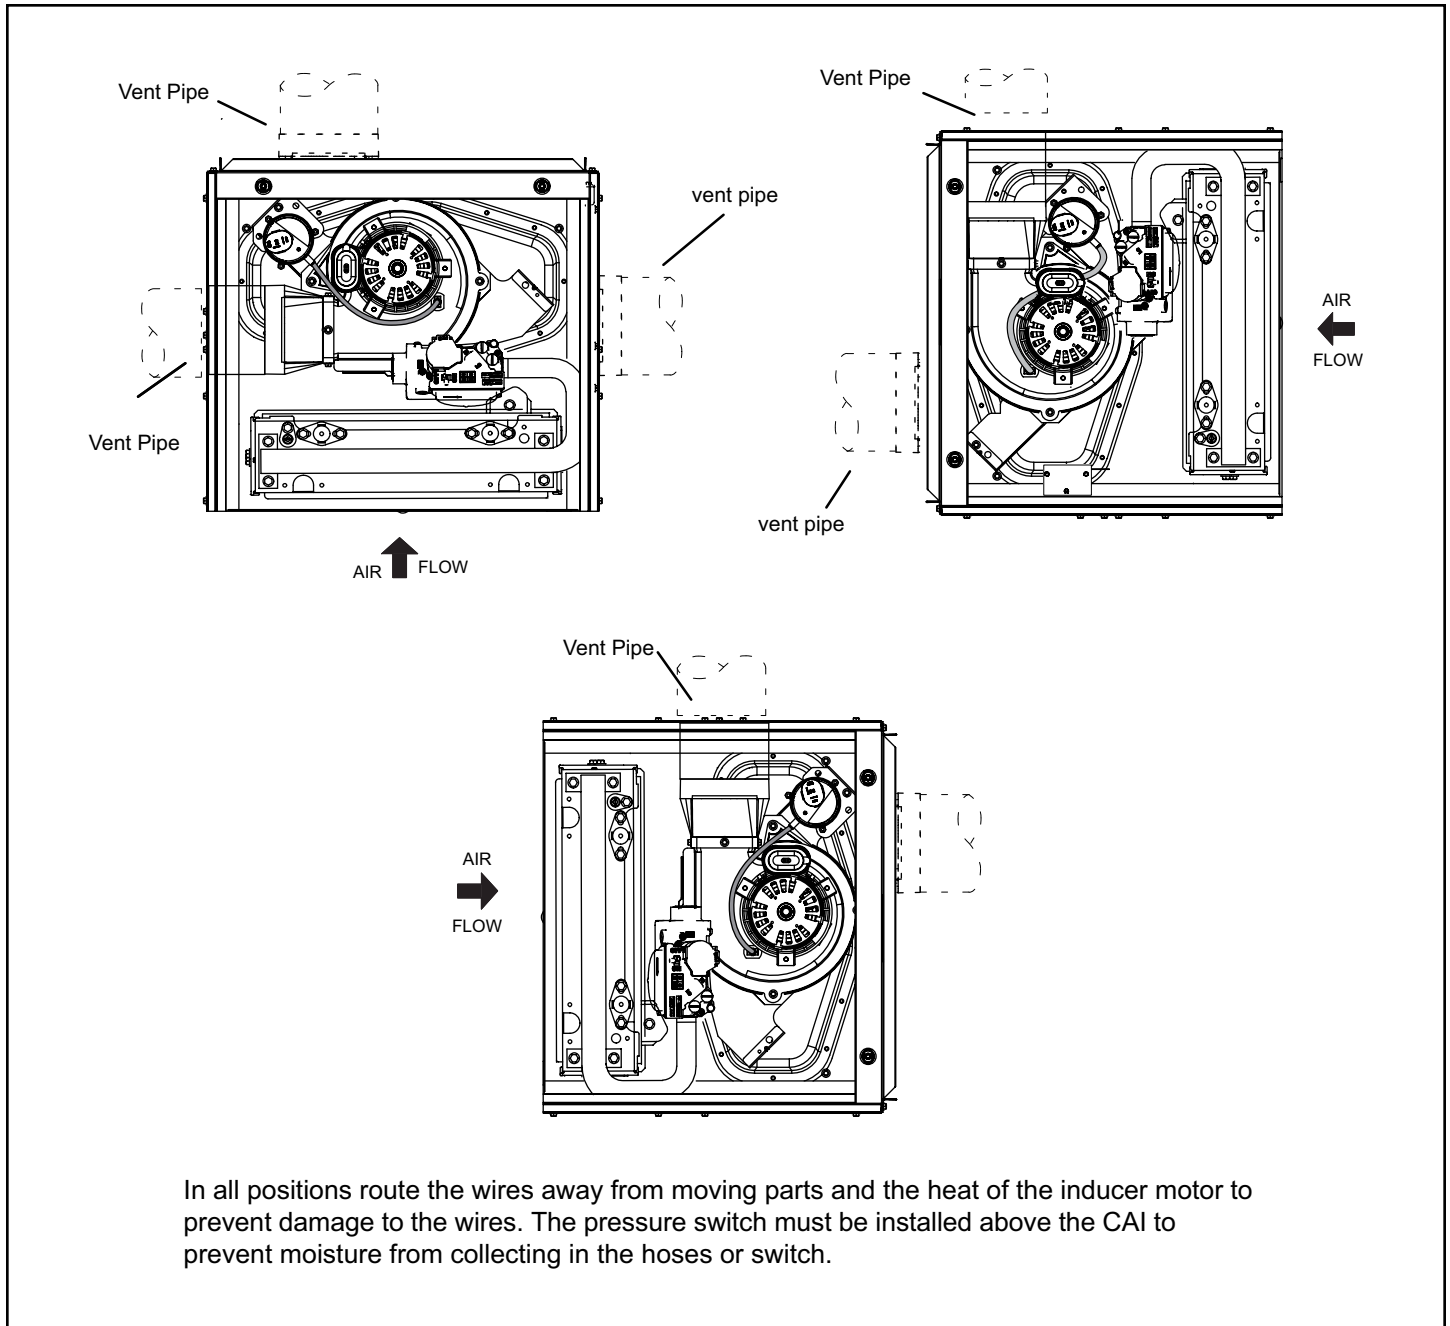

Figure 13.
The A80UH2E / 80G2UHE(L) furnace can vent in multiple positions. See Figure 13.